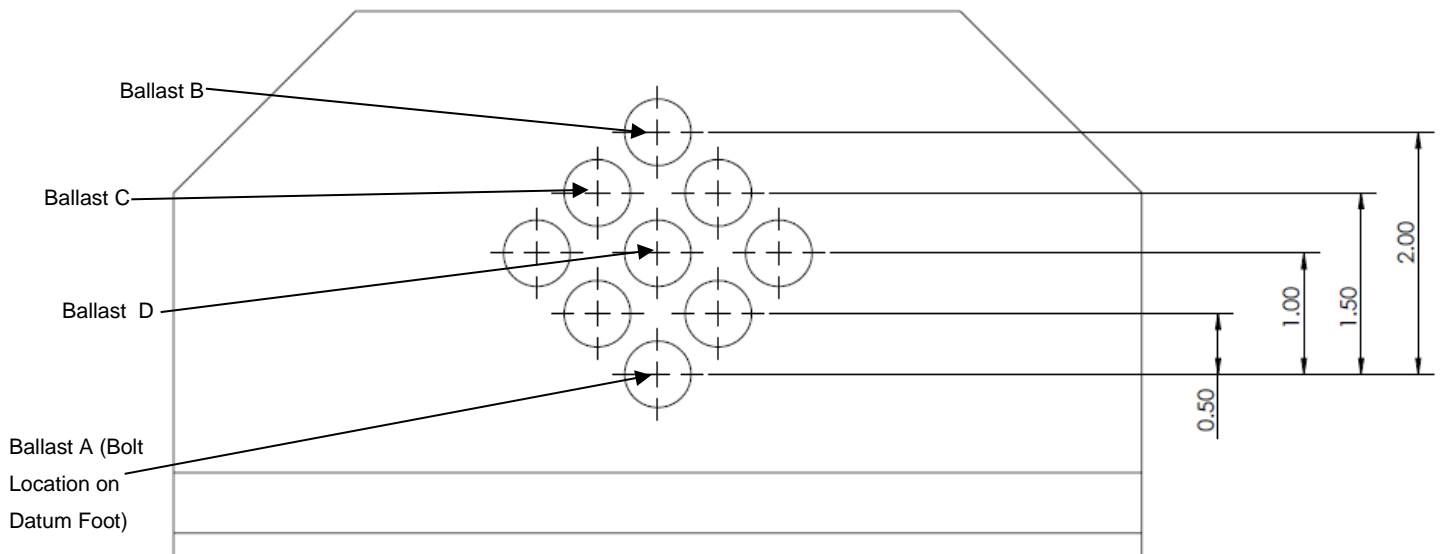

Figure 5: Example L-Foot Bolt Locations
- f. The L-feet allow vertical 0.5" incremental adjustments (2.0" max). **The lowermost hole location must be used for the first A-frame that is on the datum foot (see Figure 5).** The 4.5" bolt will go on the front foot (bottom end of the Main Diagonal) and the 4" bolt will go on the back foot (bottom end of the back vertical column).